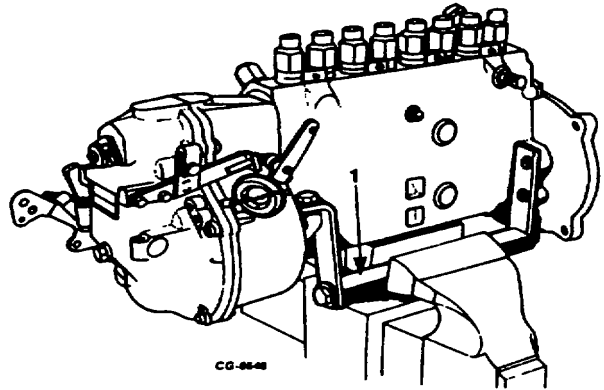

Figure 2. Injection Pump Mounted in Holding Fixture
4. Clamp holding fixture SE-2351 (Figure 2) in vise. Remove two pump housing to adapter bolts. Secure injection pump assembly to holding fixture.